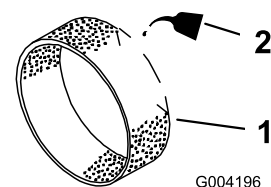

Figure 31
3. Put one or two ounces of oil on the pre-filter (Figure 31).